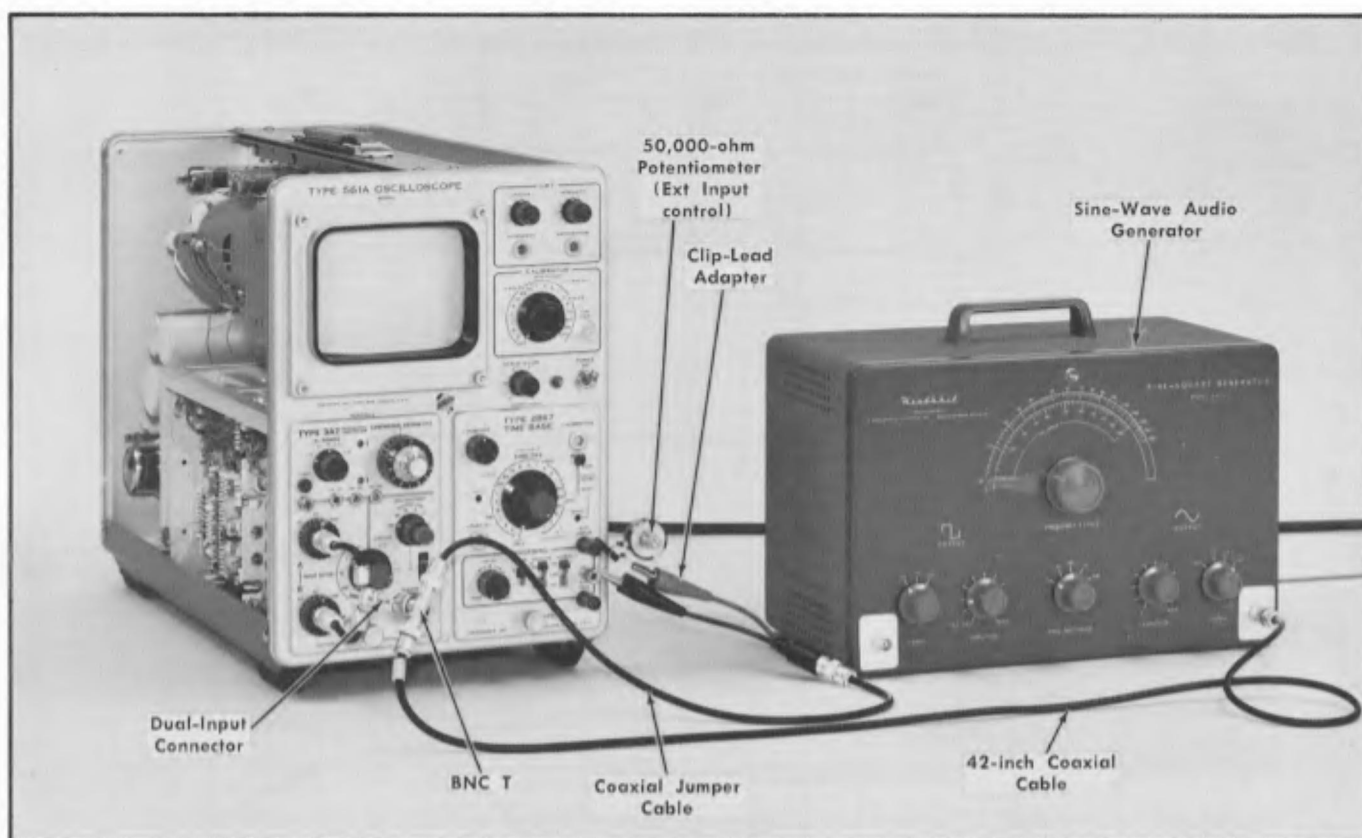

Fig. 5-18. Setup at completion of step 18d.
- c. Apply a 30-volt (15 volts peak referenced to ground), 20-Hz sine-wave signal from an audio generator through a 42-inch coaxial cable, a BNC T connector and a dual-input connector (item 13) to the A and B input connectors on the Type 3A7.
- d. Connect a coaxial jumper cable and clip-lead adapter between the BNC T connector and the time-base Ext Input connector. If the time-base unit does not have a control for the external input, connect a 50,000-ohm potentiometer between the Ext Input connector and ground. Connect the center conductor clip lead to the potentiometer wiper arm. Fig. 5-18 shows the complete setup when a Type 2B67 is used as the time-base unit.
d. Connect a coaxial jumper cable and clip-lead adapter between the BNC T connector and the time-base Ext Input connector. This is the same setup as shown in Fig. 5-18. (If a Type 2867 is used, connect the clip-lead adapter to the 50,000-ohm potentiometer as shown in the illustration.)